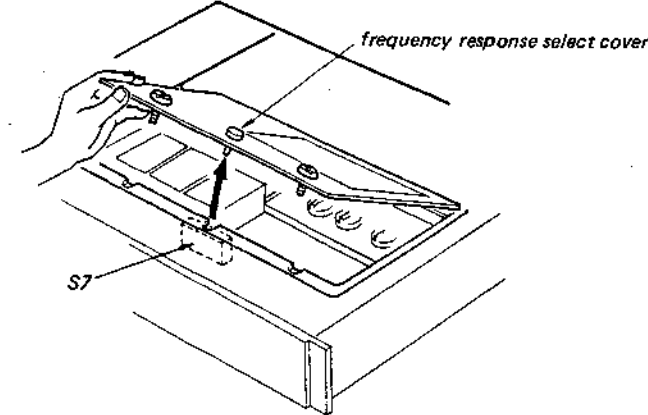

Fig. 5
3) When the frequency response select cover is opened (Fig. 5).